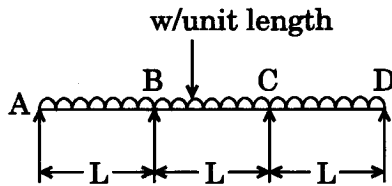

Figure 3
5. Analyse the continuous beam as shown in Figure 3 by slope deflection method. The supports are at the same level and the beam is of constant stiffness throughout. Also draw the bending moment diagram. 14